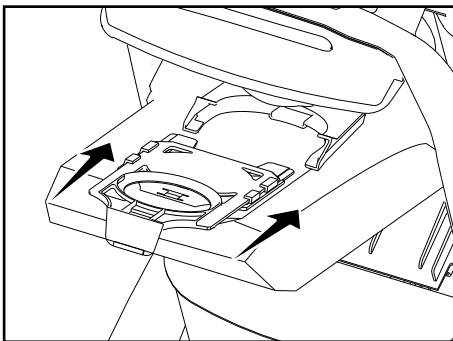

Fig. 3
- To install a new bag, slide the bottom of the red bag collar into the bag holder until it “snaps” into place (Fig. 3).